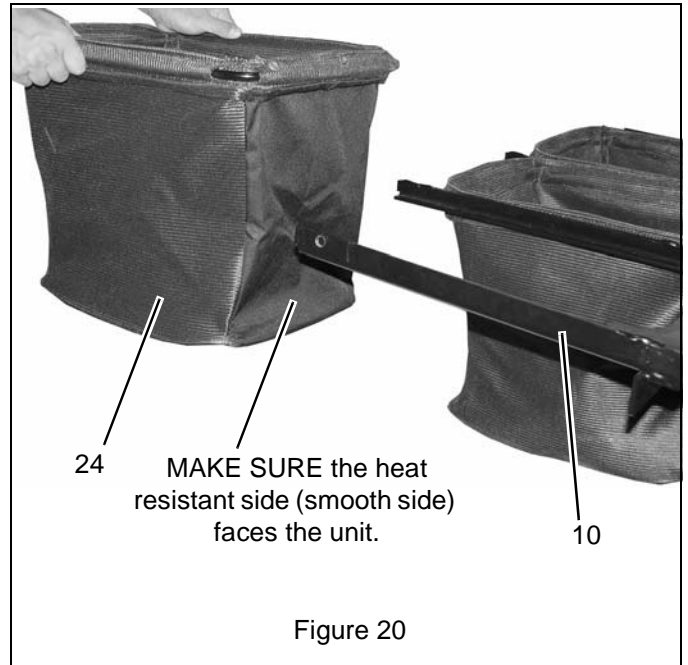

Figure 20
### AIRFLOW INDICATOR (FIGURE 20)
5. Install mesh bag on cover assembly with the heat resistant (smooth side) side of the bags facing the unit (figure 20).